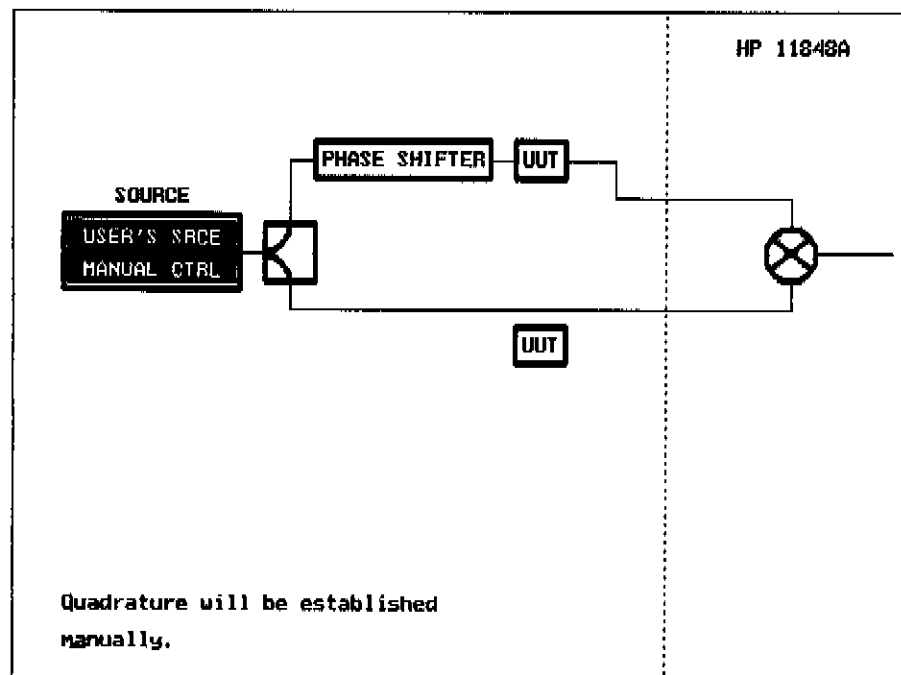

Figure 2-3. Phase Noise Without Using a Phase Lock Loop
- Devices that do not translate the input frequency, such as amplifiers and filters. For these devices, quadrature can often be attained by introducing the appropriate delay in one of the input paths, as shown in figure 2-3, or by varying the source frequency. (Note that devices with large amounts of delay may require measurement of two similar devices, as shown for frequency translator devices.)